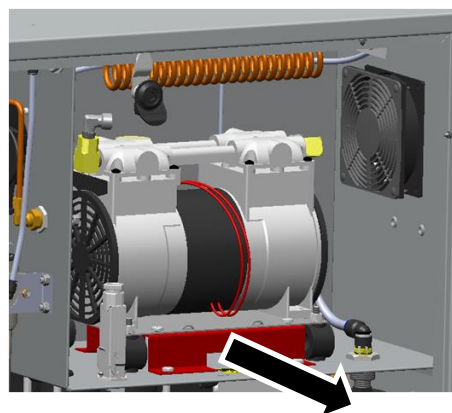

Figure 3: Slide out Bracket
3. Slide the transit bracket out from under the compressor by pulling it towards you. See figure 3.